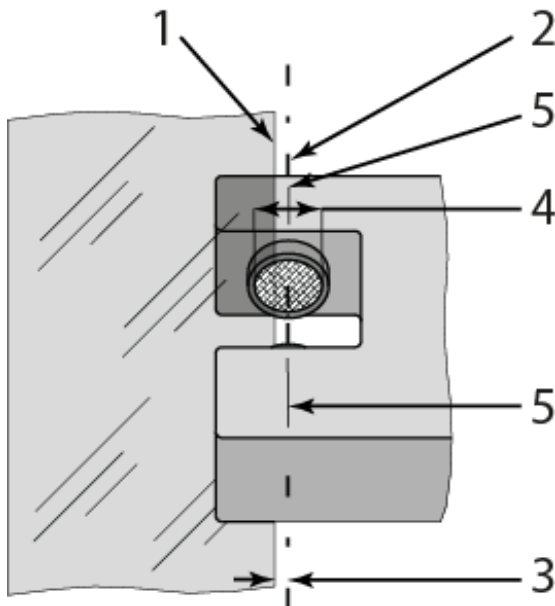

Figure 4: alignment of the sensor
- The sensor will be properly positioned, if the web edge goes through the sensor axis covering half of the ultrasonic transmitter or receiver (ref. to Fig. 4).